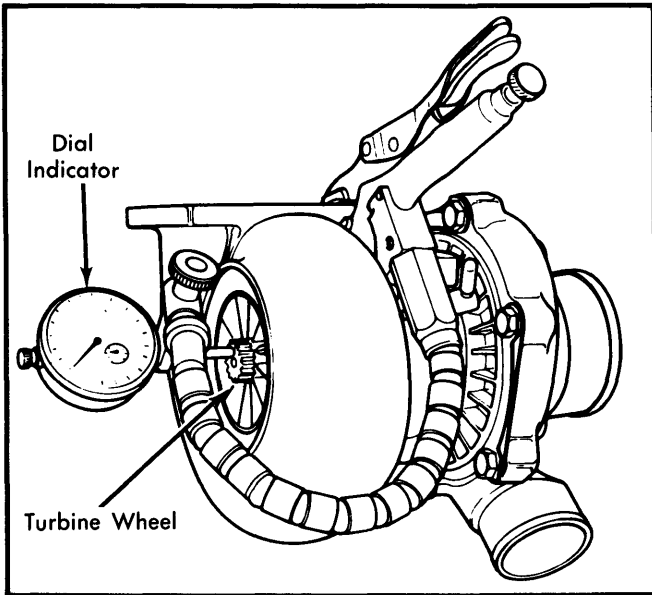

Fig. 3 Checking Shaft Axial Clearance
1) Remove turbocharger from engine. Attach a suitable dial indicator to turbine end of turbocharger so that indicator plunger rests on end of turbine wheel assembly. See Fig. 3.